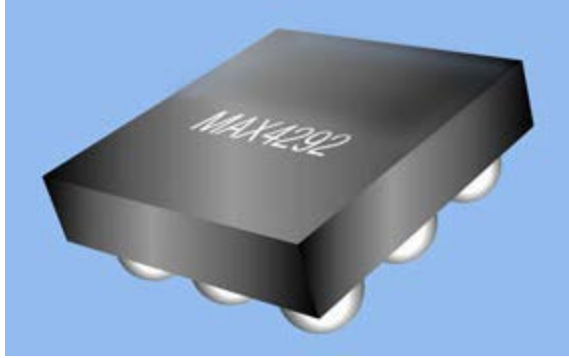

Figure 1. The MAX4292 is a dual, precision op amp in a tiny chip-scale (UCSP) package.
As these portable devices shrink, board real estate becomes an important factor. Thus the need for smaller packages increases. One of the older, more popular surface-mount packages is the *small outline* (SO) package, which is not so "small" when compared to some of the newer packages, such as the SOT23, SC70, or even the tiny chip-scale packages, such as the UCSP (**Figure 1**). The reduced parasitic inductance and capacitance of these smaller packages improves AC performance, but they often cause higher offset errors because their use places increased stress on the silicon die. Fortunately, these higher offsets can be reduced with skillful IC design.